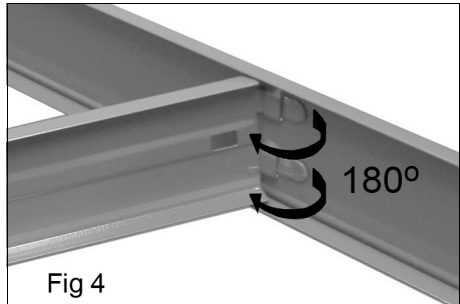

Fig 4
3. Connect the centre support beams (e) to the long beams (C) by bending the flexible tabs to 90 degrees and slotting them into place as shown in Fig 4. Finally bend the tabs back 180 degrees to lock in place.